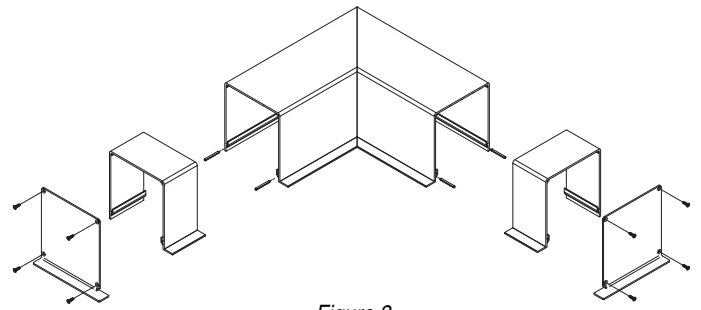

Figure 3
- ③ If you are using endcaps, attach endcaps to pocket using screws (provided) (see Fig. 3).
- ④ Mount pocket using hardware appropriate to mounting surface and conditions. If you are using Alignment Pins to connect pocket pieces, it may be easier to assemble the pocket pieces before mounting. If not using Alignment Pins, butt the edges up against one another. They do not overlap.